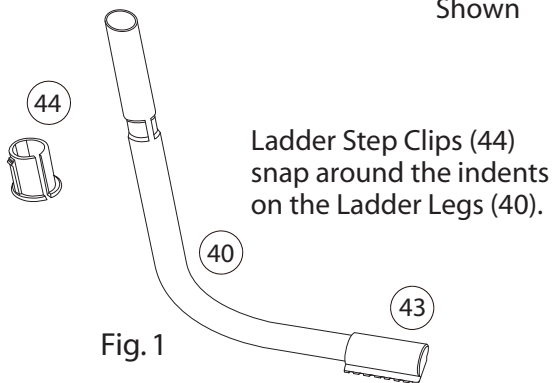
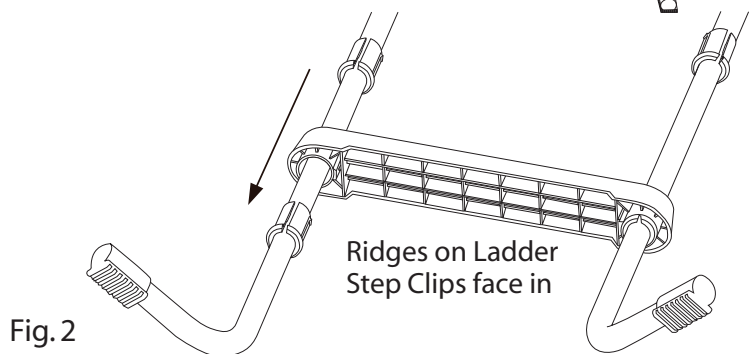

Fig. 1
Fig.2
1. Separate the Ladder Legs (40) – 2 pieces each left and right. Look for the “L” and “R” on the top of the legs.
2. Start with one “R” ladder leg section (40). Carefully pry open one ladder step clip (44) from the side, just enough to get over the top section of the ladder leg, and slide it from the top of the leg down to the lowest indented section as shown in Figure 1. The ridge on the ladder clip should be on the inside of the leg as shown in Figure 2. Repeat with “L” leg section.
3. Slide a step (42) down over both legs. Make sure that the side of the step marked with an “R” is on the right side leg. Slide the step down until the ladder step clips (44) inserts into the underside of the step and the ridges inside of the clips lock into place. The ladder step clips should stay in the indented section of the ladder leg as you press the steps down over them. The ladder step clips should insert flush against the bottom of the step. See Figure 2.
4. Repeat Steps 2 and 3, installing the rest of the ladder step clips (44) and steps (42) for the first section.
6. The Machine Screws (45) should be installed from the inside of the Handle (41), and out through the Ladder Handle Brace with Safety Label (49) on the outside.